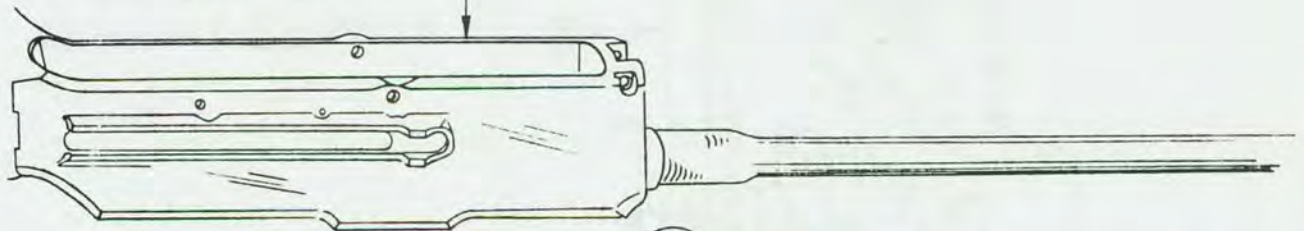

FIG. 1
- 9 INSERT BOLT (D) INTO RECEIVER (E) TOWARD REAR AND SLIDE IT FORWARD, FIG. 1.